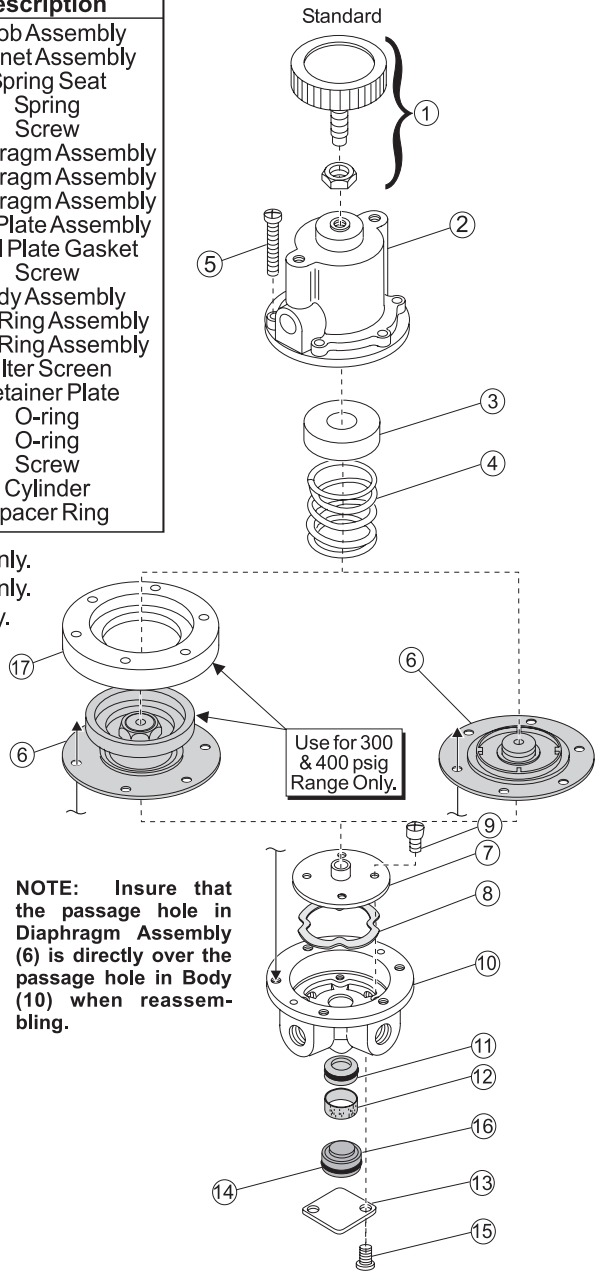

Figure 2. Model 10BP Exploded Drawing
3. Remove the six Screws from the Bonnet Assembly. For more information, see **Figure 2**.
4. Remove the Bonnet, Spring and Diaphragm Assembly. For more information, see **Figure 2**.
6. Carefully reassemble the unit. Ensure that the Vent in the Bonnet is clear. For more information, see **Figure 2**.